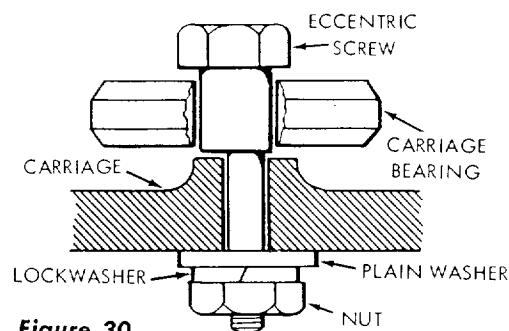

Figure 30
To test for looseness in carriage ball bearings (between bearings and tracks in radial arm), lock yoke clamp handle, grasp the motor and carriage assembly firmly and apply a firm rocking motion. If looseness exists, the two bearings on **left-hand side** of radial arm must be adjusted. The two bearings on right-hand side of arm are attached to the carriage with regular hex-head screws and are not adjustable. The two bearings on left-hand side of arm are attached to carriage with eccentric screws. (See figure 30.)
2. Loosen nuts (2, figure 32) just enough to permit eccentrics to turn. (See figure 30.)